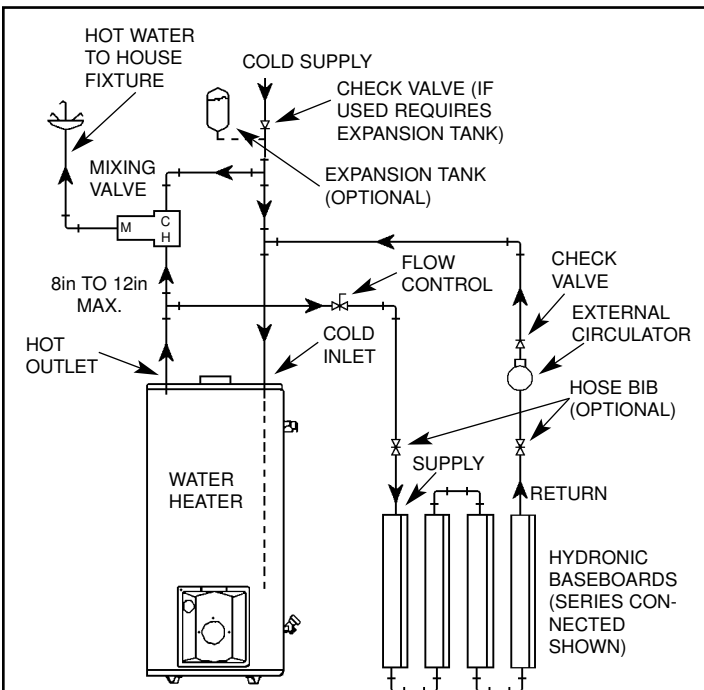

Figure 16 COMBO HEATING - BASEBOARD
3. A hydronic in-floor heating loop (Figure 16).